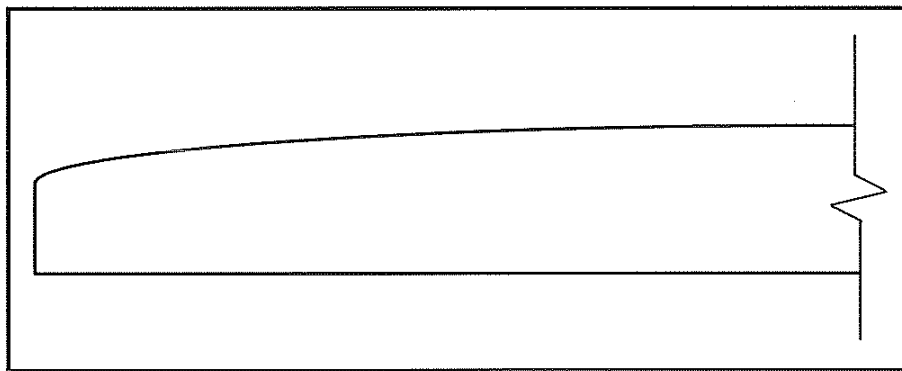

FIGURE 5.6
- 5.6 FIGURE 5.6 below shows part of a rib when working with centering. (1)